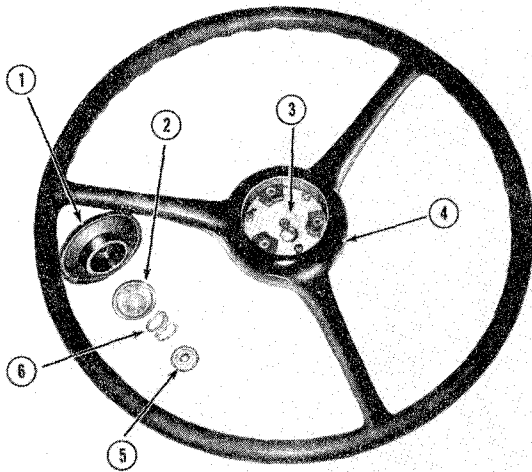

Figure 8-37
Install base plate (3, Fig. 8-37), contact cap (5), spring (6) and contact cup (2) in steering wheel (4). Install horn button (1) by gripping with a firm downward pressure of fingers and twisting either right or left.